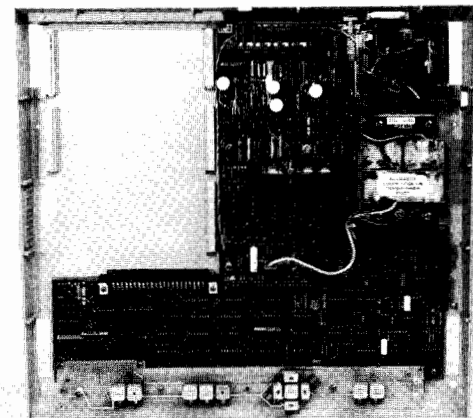

Figure 6-11. Top Cover and Deck Assemblies Identification/Removal
- b. Remove the top cover (see Figure 6-11, Detail "A" and "B").